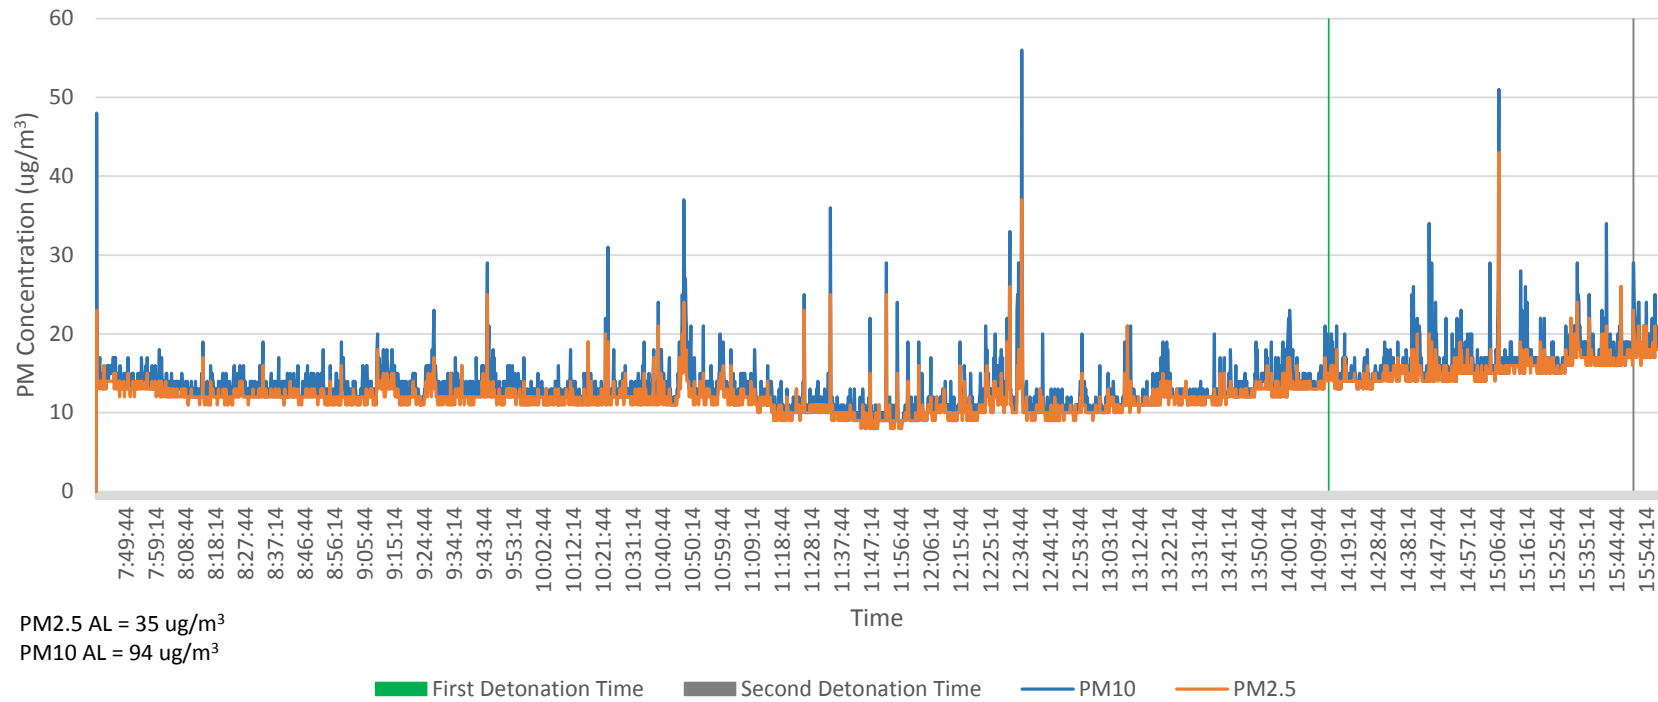

Figure 3-6. PM2.5 and PM10 on 8/9/17 at the Fence Line Boundary Monitoring Point - Lower Factory Pond
- Figure 3-6. PM2.5 and PM10 on 8/9/17 at the Fence Line Boundary Monitoring Point – Lower Factory Pond